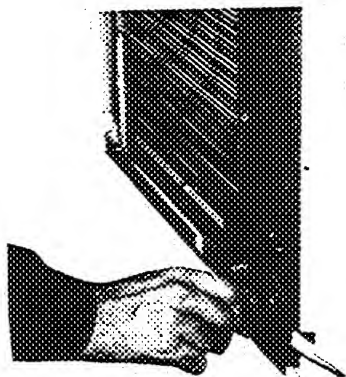

Fig. 5 – Removing Knobs
3. Carefully remove thermostat and mode switch control knobs by pulling them straight out and off. See Fig. 5.